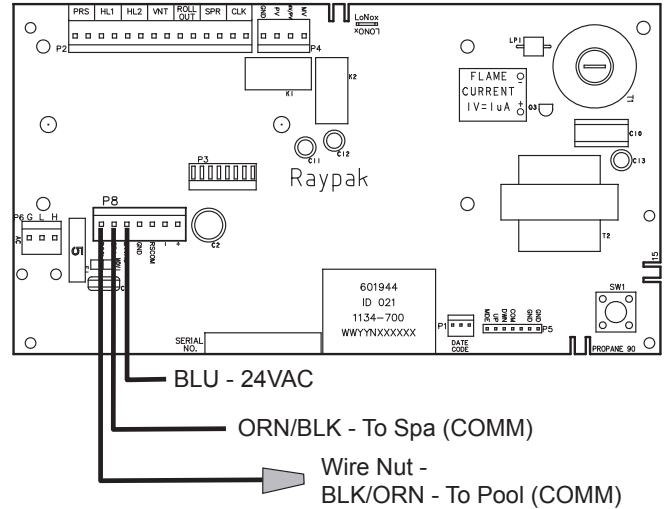

Figure 54. 2-Wire Remote Harness Installation on the P8 Connector of the Board
- Install the "7-Pin Remote Interface Harness" to the P8 connector and turn power "ON" to the heater. See **Figure 54**.